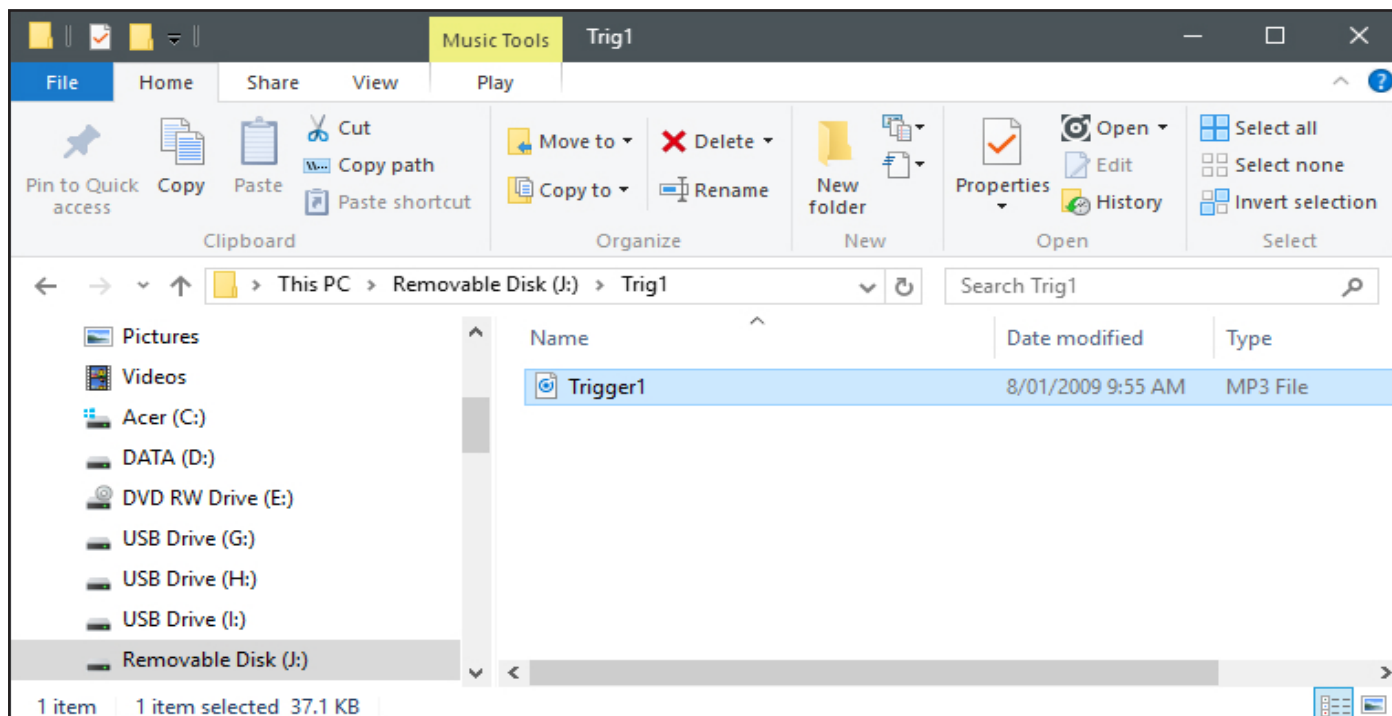

Fig 5
Step 4: Open the Trig1 folder and you should see an MP3 file which could be named Trigger1.MP3 as shown in figure 5.